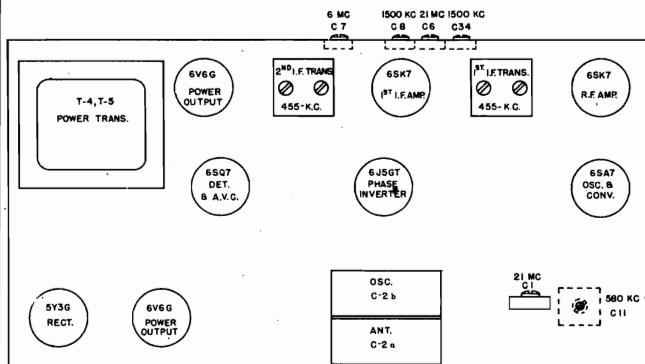

Fig. 1. Trimmer Location
The alignment procedure is given in table form below. The use of a standard I.R.E. dummy antenna in making all R.F. alignments is recommended. R.F. alignment can be performed by loop coupling the generator signal to the receiver Beam-a-Scopes if care is exercised not to overcouple the two circuits. Keeping a distance of two feet or more between the generator loop and the receiver Beam-a-Scope will generally insure freedom from overcoupling. The relative position of the Beam-a-Scopes with respect to the chassis materially affects R.F. alignment; therefore, all R.F. alignments should be made with the chassis and Beam-a-Scopes mounted in the cabinet. In keeping with this recommendation all R.F. alignment trimmers are available either on top of the chassis or through holes in the back apron as shown in Fig. 1. Metal objects such as meters, tools, etc., should not be placed on top of the receiver cabinet. Also the receiver should be kept away from large metal objects such as radiators, metal-top tables, etc.
2. Place the series of records (up to eight 10-inch or seven 12-inch records) on the record-holder posts (as shown in Fig. 1). The records should be arranged in the desired order with the desired selection face up and the last selection on top.